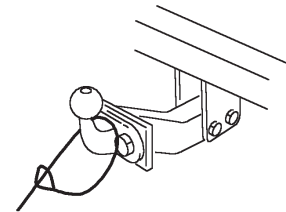

Fig 3
If the green indicator is visible then you know you have correctly coupled your AKS to your towing vehicle (Fig. 3).
- Insert the locking bolt into the rim specific insert. (Fig. 3)